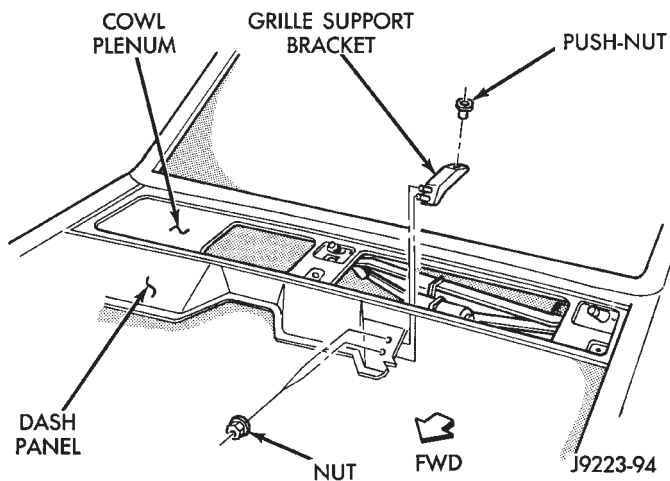

Fig. 30 Cowl Grille Support Bracket
(7) If necessary, remove the nuts and cowl grille support bracket from the dash panel (Fig. 30).
(1) If removed, install the cowl grille support bracket on the dash panel (Fig. 30). Tighten the nuts to 9 N-m (77 in-lbs) torque.
(2) If removed, install the push-nuts in the cowl panel and the support bracket.
(3) If removed, install the push-rivets and washer nozzles in the cowl grille.